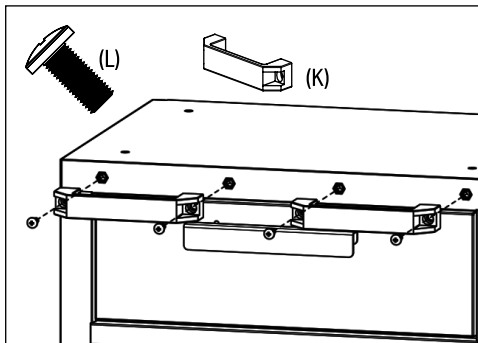

Fig. 1
7.1 Fitting the Roller Cabinet (4) & (5) Grab Handles (Fig.1)
- Attach the grab handles (K) to the front of the cabinets using M8 flat head bolts (L) \times 2 per handle.